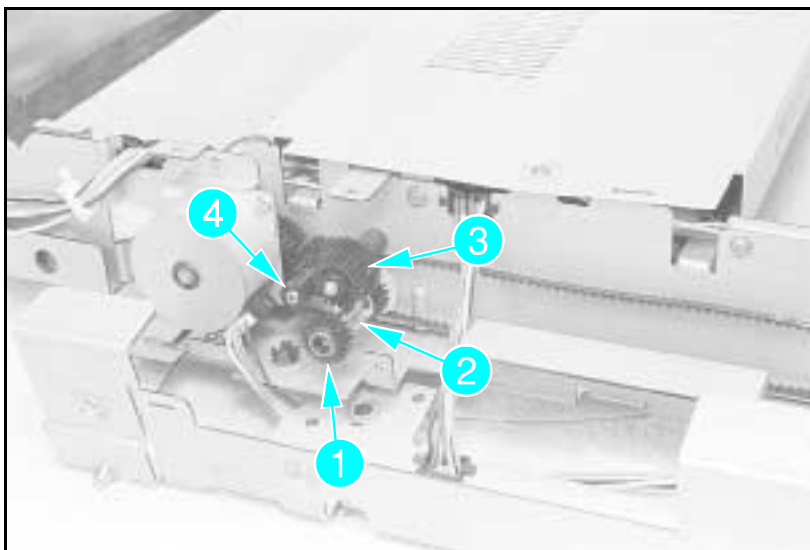

Figure A-21 **Holding Tray Gears and Belt**
- 6** Remove the (1) one-way gear shown in Figure A-21, callout 1.
- 7** Remove the (1) E-clip from behind the first gear (see Figure A-21, callout 2).
- 8** Remove the (2) gears shown in Figure A-21, callouts 3 and 4.